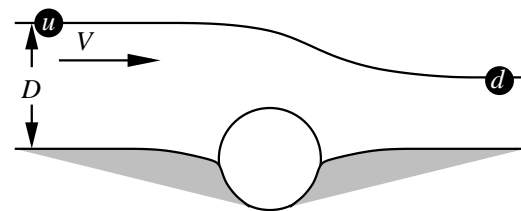

Figure 3: Flow over a pipe obstacle.
3. (10 pts) Water of depth D flows at a uniform velocity of V in a uniform-width concrete drainage channel, as shown in Fig. 3. The flow encounters pipe, partially embedded in the channel-bed, that spans the channel at a right angle to the flow. The depth “necks down” to $D/2$ downstream of the pipe. Calculate the head loss h_L (in units of length) associated with this scenario. Hint: reference your calculation to the water’s surface at the “upstream” u and “downstream” d points. Comment on any constraints your solutions suggests between D and V .